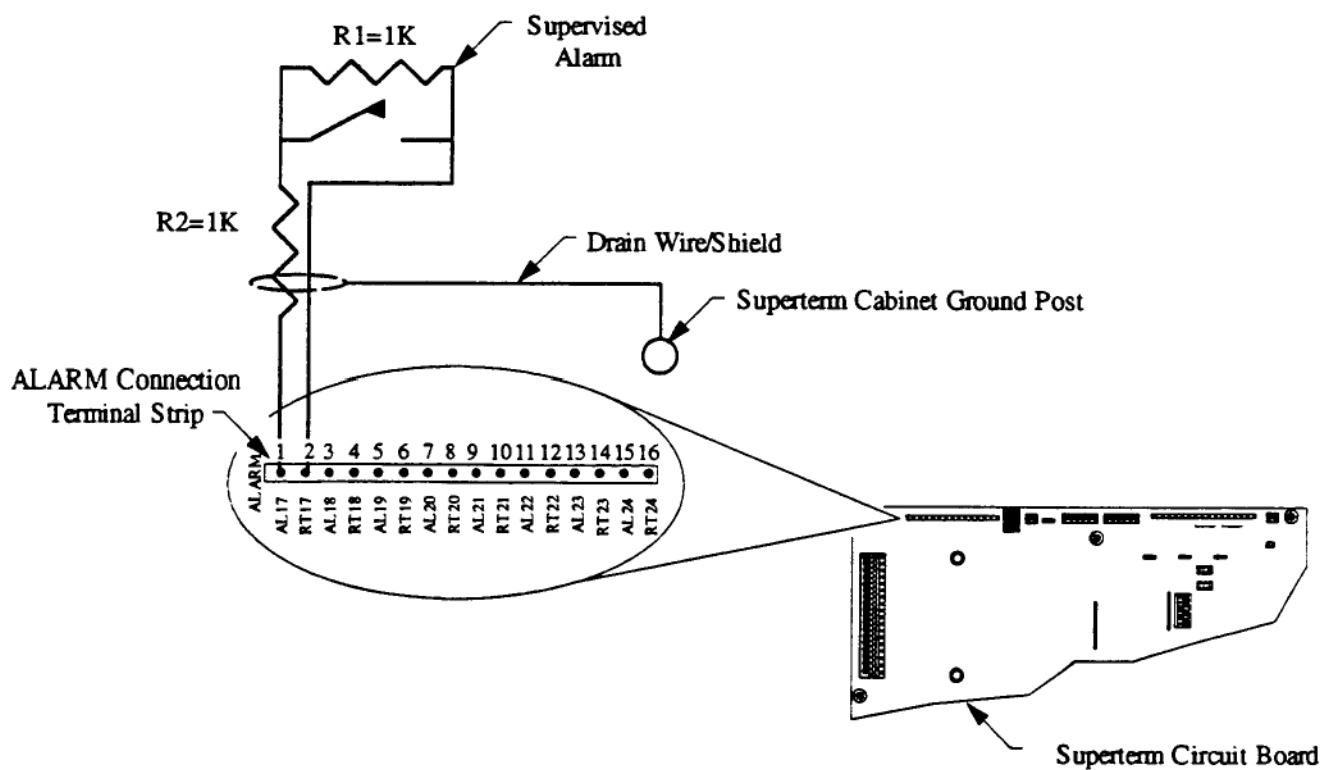

Figure 26 - ALARM Terminal Strip - Supervised Alarm Condition
- 2) Install R 1 in parallel with the alarm contacts (see Figure 26).